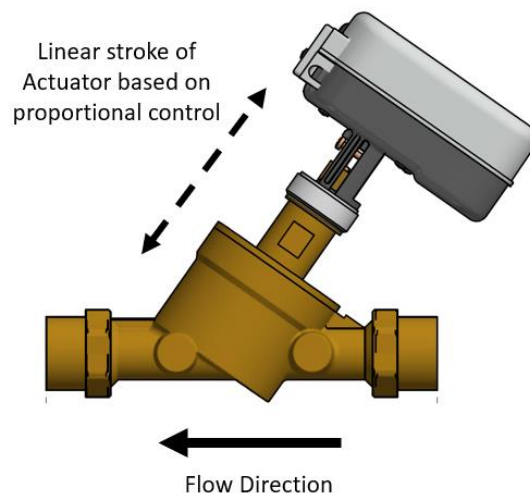

Figure 1: PurePIC® Pressure Independent Control Valve model
5. The actuator has a linear stroke and the PurePIC™ should be ordered based on design flow rate which will be preset when shipped. During operation under modulation, the flow can be set below design flow with respect to stroke proportional to voltage signal and new set flow rate will be maintained constant across the published pressure differential range. See Figure 1 below for a representation of the general operation of PurePIC™ model.